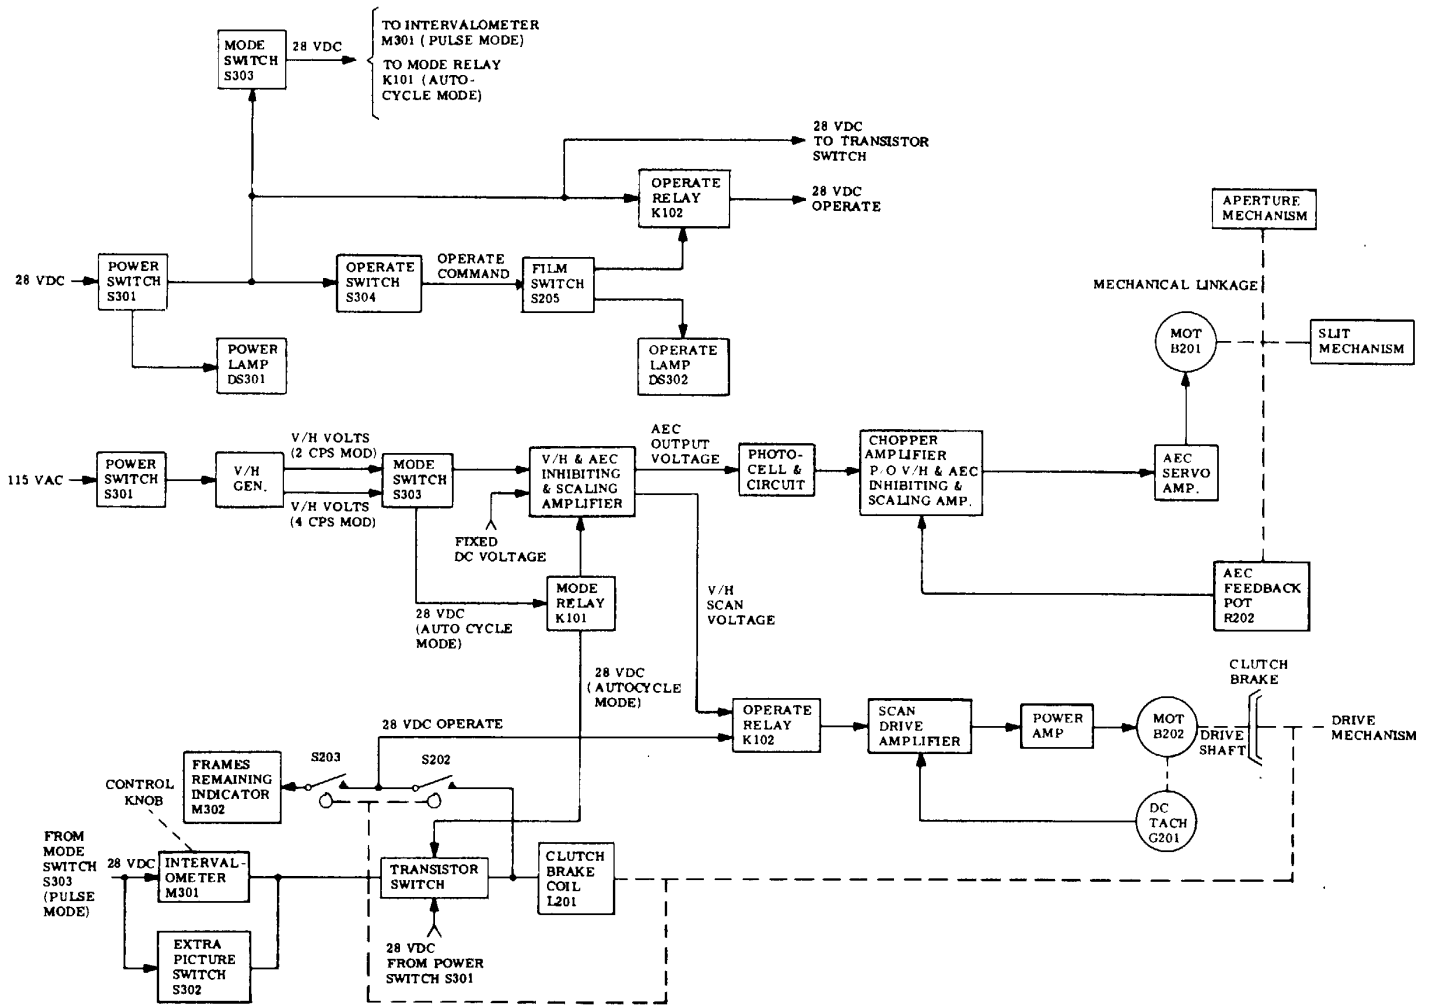

Figure 22. Electronic Block Diagram.
(fig. 22)
28. V/H Command (fig. 22)
29. Cycling Rate, Autocycle Mode (fig. 22)
30. Cycling Rate, Pulse Mode (fig. 22)